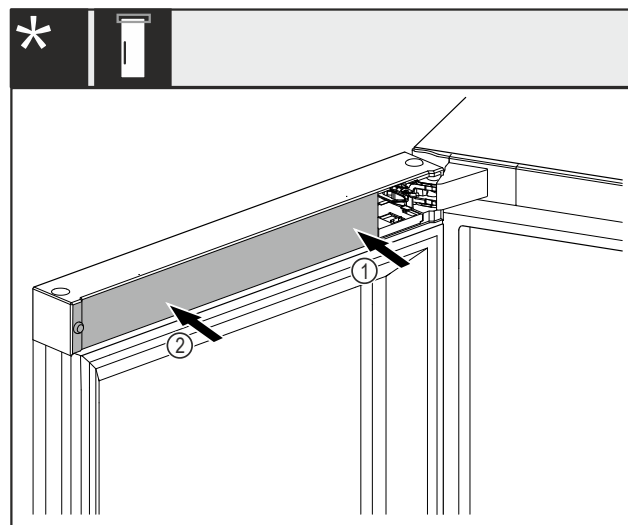

Fig. 43 *
► Position the cover Fig. 43 (1) on the swap bearing block side first and snap it in.*
► Position the cover Fig. 43 (2) on the outside and snap it in.*